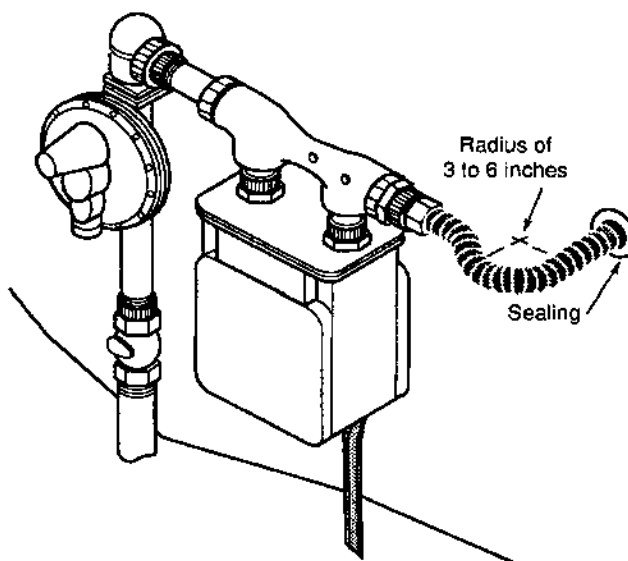

Figure: 4-13
2. Meters which are independently supported with a bracket can be directly connected outdoors with **TracPipe**®. (See Figure: 4-13). If practical, direct connections shall include a 3 to 6 inch additional length of tubing to accommodate differential settling and meter movement. No mechanical protection of the tubing is required for outdoor connections.